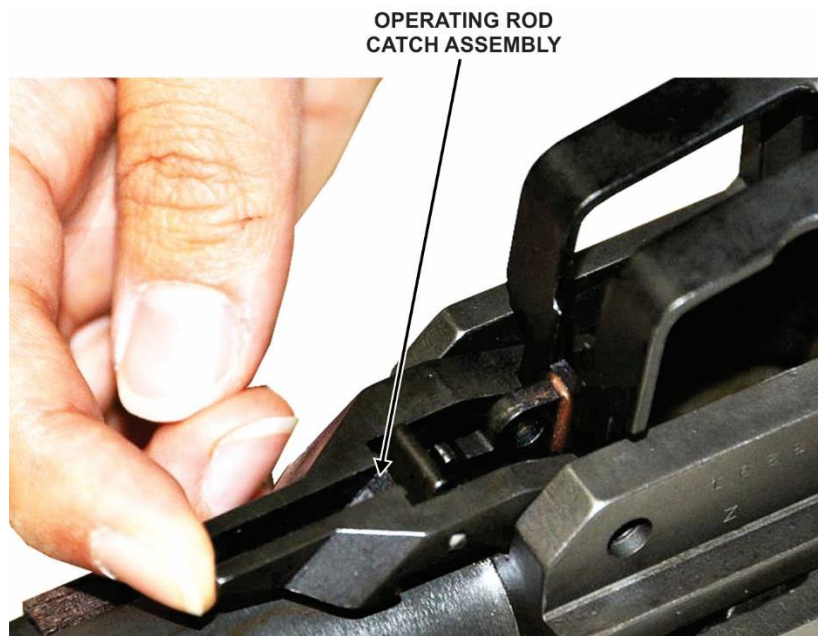

Figure 46. Testing operating rod catch assembly
- 13) Test for correct assembly by pressing down on the front arms of the operating rod catch assembly (fig 46). It should move and you should be able to feel the tension of the clip latch spring.